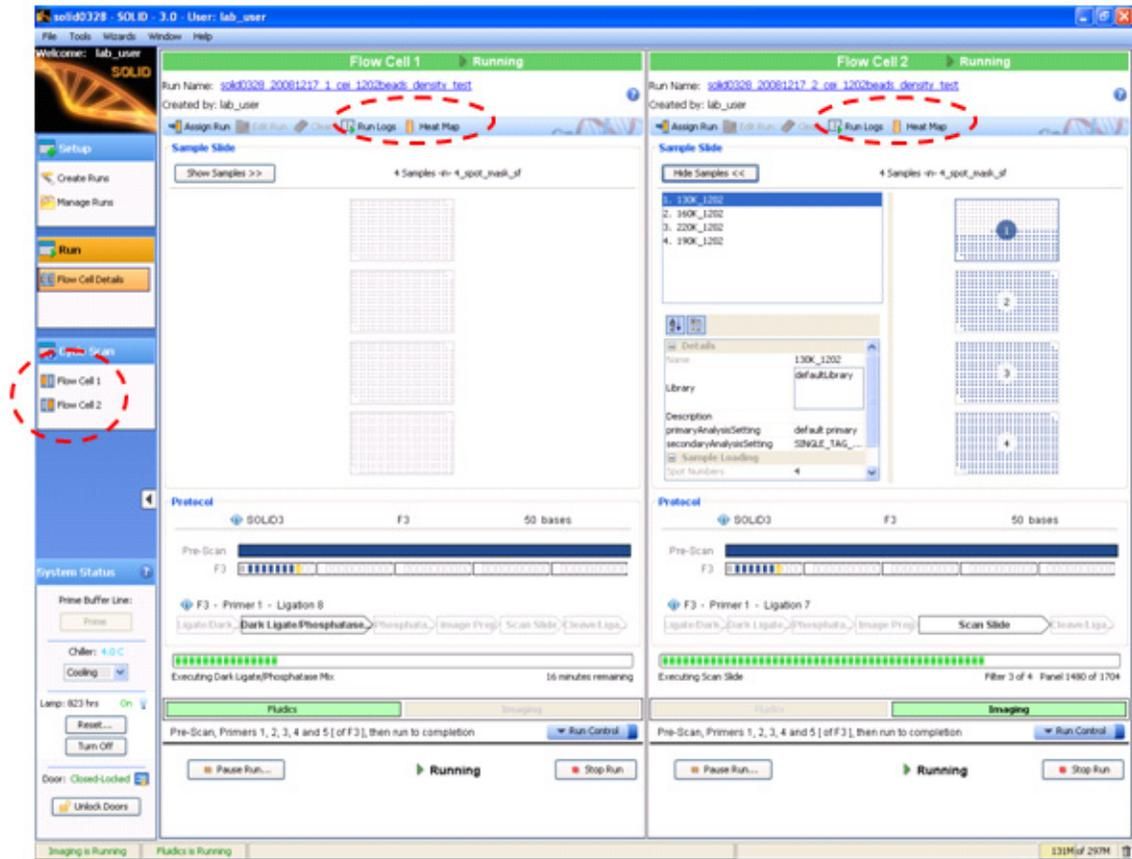

Figure 41 How to learn more about the current run.
3. After the run has been initiated, you can click the **Run Log**, **Cycle Scans**, and **Heat Map** buttons located at the top of the appropriate flowcell panel to learn more information about the current run (see Figure 41 on page 52).
1. To view the heat map showing bead densities found in the focal map images, click **Heat Map** located at the top right-hand corner of the flowcell panel (see Figure 41 on page 52).